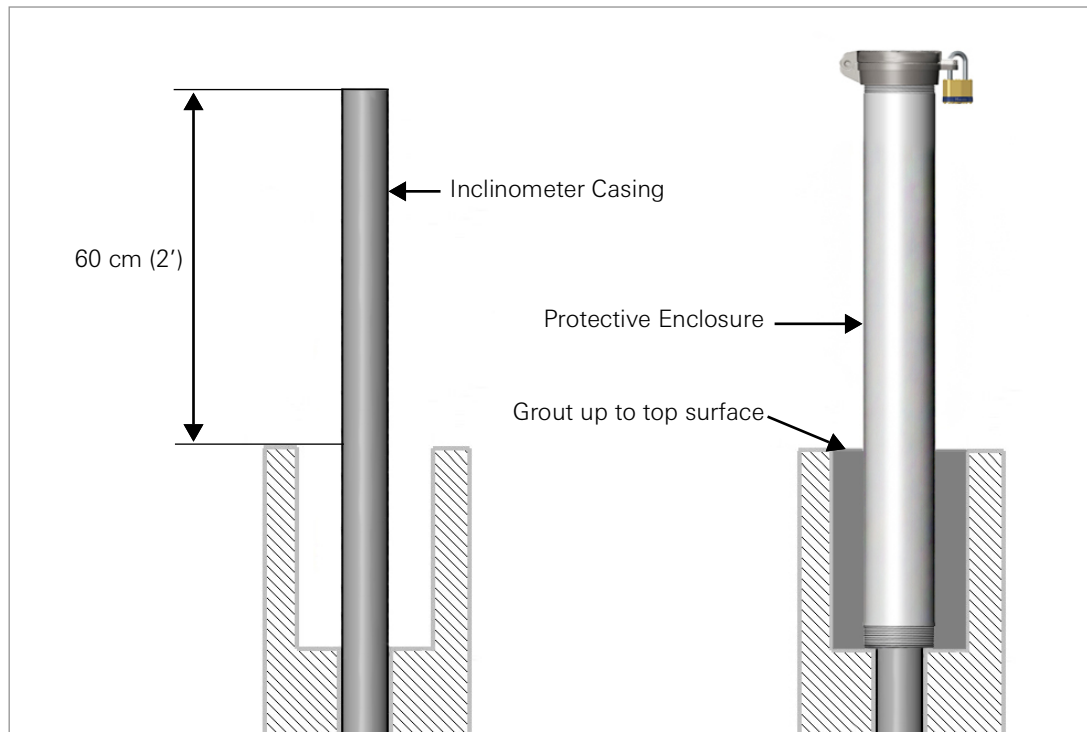

FIGURE 20: Trimmed Casing (Left) and Installed Protective Cover (Right)
1. Cut the casing off 60 cm (2') from the top of the borehole (Figure 20).